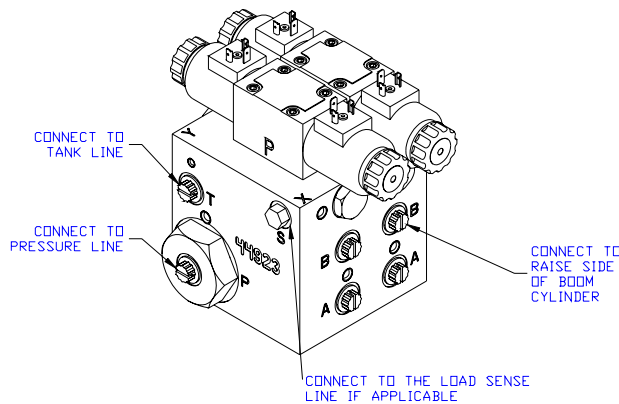

Figure 16 – NORAC Valve Block
1. On a clean surface remove all plastic plugs from the NORAC hydraulic Valve (V01) (Figure 16).